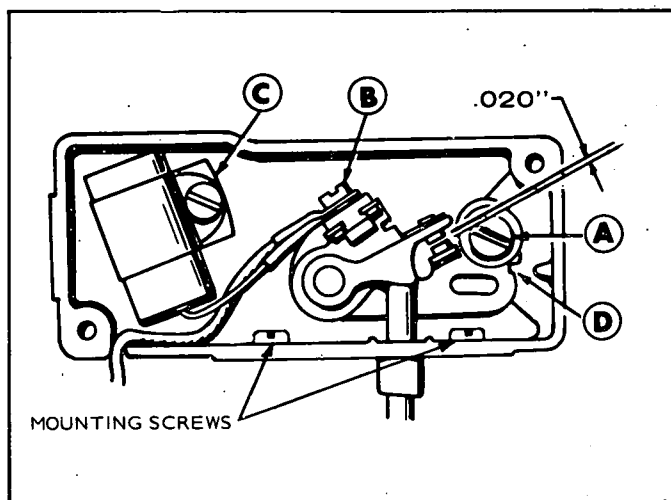

FIGURE 21. BREAKER POINT ADJUSTMENT
3. Refer to Figure 21. Remove mounting screw (A) and pull the points out of the box just far enough so screw (B) can be removed and leads disconnected.
4. Remove screw (C) and replace condenser with a new one.
5. Replace points with a new set but do not completely tighten mounting screw (A).
7. Using a screwdriver inserted in notch (D) on the right side of points, turn points until gap measures .020" with a flat thickness gauge. Tighten mounting screw and recheck gap.